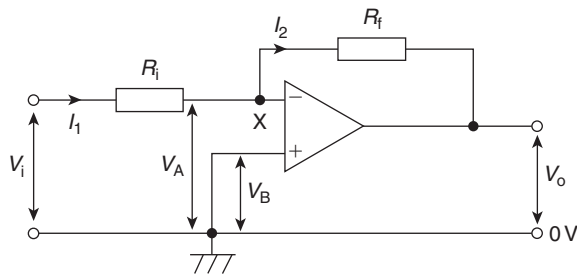
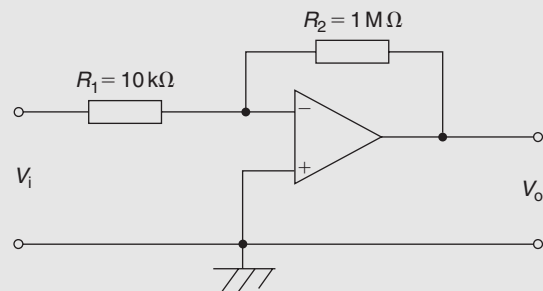

Figure 19.5
Figure 19.6
Operational amplifiers nearly always use **negative feedback**, obtained by feeding back some, or all, of the output to the inverting (–) input (as shown in Fig. 19.5 in the next section). The feedback produces an output voltage that opposes the one from which it is taken. This reduces the new output of the amplifier and the resulting closed-loop gain  $A$  is then less than the open-loop gain  $A_o$ . However, as a result, a wider range of voltages can be applied to the input for amplification. As long as  $A_o \gg A$ , negative feedback gives:
The basic circuit for an inverting amplifier is shown in Fig. 19.5 where the input voltage  $V_i$  (a.c. or d.c.) to be amplified is applied via resistor  $R_i$  to the inverting ( $-$ ) terminal; the output voltage  $V_o$  is therefore in anti-phase with the input. The non-inverting ( $+$ ) terminal is held at 0V. Negative feedback is provided by the feedback resistor,  $R_f$ , feeding back a certain fraction of the output voltage to the inverting terminal.
- (ii) the inputs are both at the same potential if the op amp is not saturated, i.e.  $V_A = V_B$  in Fig. 19.5
In Fig. 19.5,  $V_B = 0$ , hence  $V_A = 0$  and point X is called a **virtual earth**. Thus,
**Problem 4.** In the inverting amplifier of Fig. 19.5,  $R_i = 1\text{ k}\Omega$  and  $R_f = 2\text{ k}\Omega$ . Determine the output voltage when the input voltage is: (a) +0.4 V, (b) -1.2 V
**Problem 5.** The op amp shown in Fig. 19.6 has an input bias current of 100 nA at 20°C. Calculate (a) the voltage gain and (b) the output offset voltage due to the input bias current. (c) How can the effect of input bias current be minimized?
Comparing Fig. 19.6 with Fig. 19.5 gives  $R_i = 10\text{ k}\Omega$  and  $R_f = 1\text{ M}\Omega$
- (c) The effect of input bias current can be minimized by ensuring that both inputs 'see' the same driving resistance. This means that **a resistance of value of 9.9 k $\Omega$**  (from part (b)) **should be placed between the non-inverting (+) terminal and earth** in Fig. 19.6
With reference to Fig. 19.5, and from equation (5),
4. In the inverting amplifier of Fig. 19.5 (on page 306),  $R_i = 1.5 \text{ k}\Omega$  and  $R_f = 2.5 \text{ k}\Omega$ . Determine the output voltage when the input voltage is: (a) +0.6 V, (b) -0.9 V